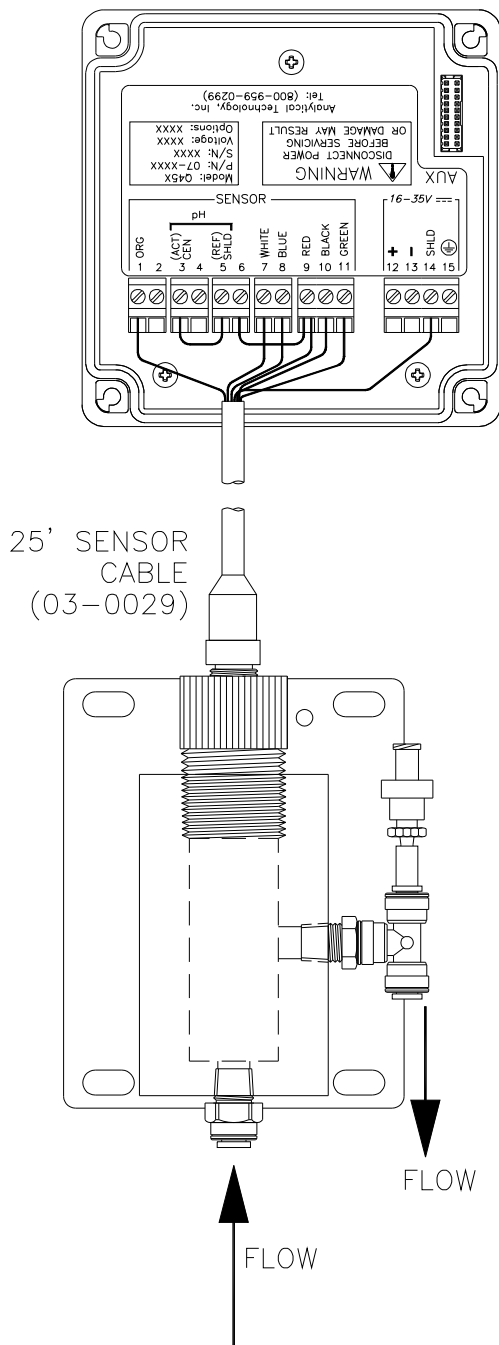

Figure 10 - Loop-Power Connection, Q45H Transmitter
1. Use wiring practices that conform to all national, state and local electrical codes. For proper safety as well as stable measuring performance, it is important that the earth ground connection be made to a solid ground point from terminal 12 (Figure 10). The AC power supply contains a single 100mA (115V) or 50mA (230V) slo-blo fuse. The DC powered version contains a 250 mA fuse. The fuse **F1** is located adjacent to **TB5** and is easily replaceable.
In the two-wire configuration, a separate DC power supply must be used to power the instrument. The exact connection of this power supply is dependent on the control system into which the instrument will connect. See Figure 10 for further details. Any twisted pair shielded cable can be used for connection of the instrument to the power supply. Route signal cable away from AC power lines, adjustable frequency drives, motors, or other noisy electrical signal lines. Do not run sensor or signal cables in conduit that contains AC power lines or motor leads.